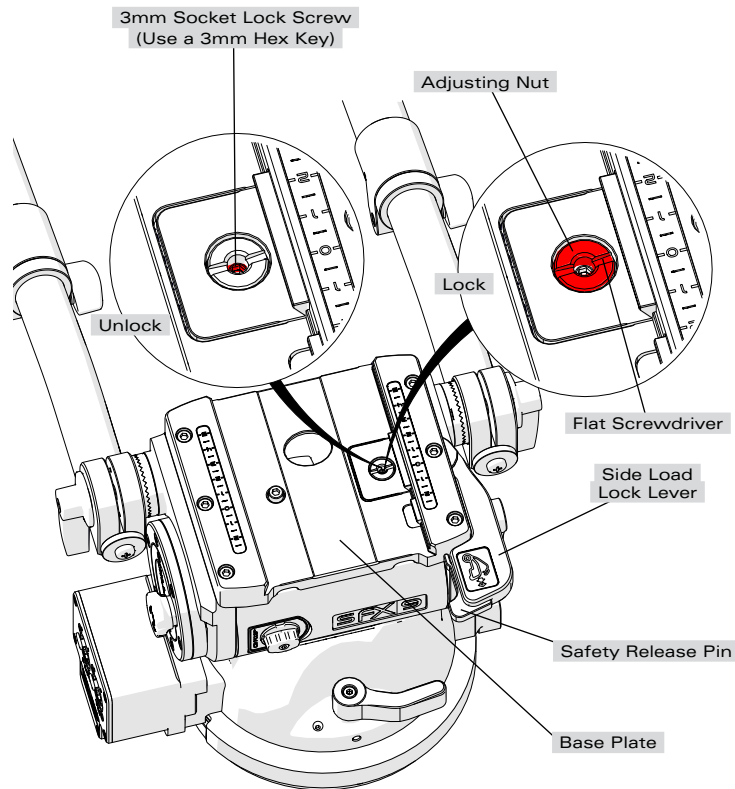

Fig. 10
- 5.2 With the CAMERA PLATE in place, gently push the SIDE LOAD LOCK LEVER towards the BASE PLATE until resistance is felt – this is the start of the locking action. Check the position of the SIDE LOAD LOCK LEVER as shown in Fig. 10.
- 5.3 Adjustment is necessary if the SIDE LOAD LOCK LEVER position is outside the recommended range. Follow Fig. 10 to determine the correct method of adjustment.
- 5.4 Using a 3 mm Hex key unlock the LOCK SOCKET SCREW (fig. 10), then using a broad flat screw driver turn the ADJUSTING NUT (fig. 10) in the direction shown by 1/8 of a turn and re-check step 5.2, repeat 5.4 if necessary. When adjusted correctly, the SIDE LOAD LOCK LEVER will be smooth to operate and require modest effort to lock the CAMERA PLATE (fig. 11).